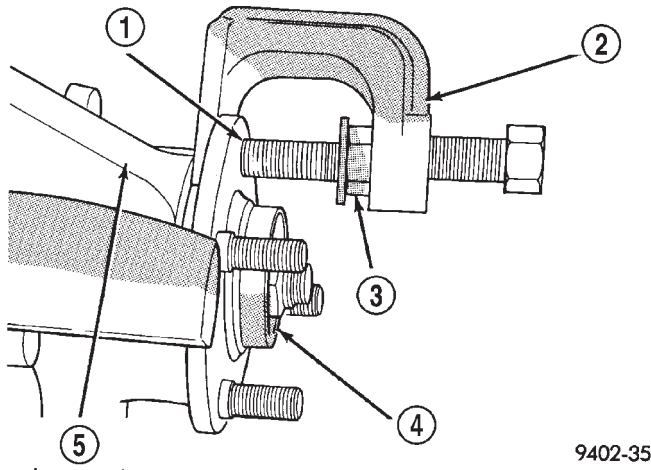

Fig. 60 Removing Wheel Stud From Hub And Bearing
(7) Install a lug nut on wheel stud to be removed from hub and bearing assembly, (Fig. 60) so threads on stud are even with end of lug nut. Rotate hub so stud requiring removal is aligned with notch cast into front of steering knuckle. Install Remover, Special Tool C-4150 on hub and bearing assembly flange and wheel stud (Fig. 60).